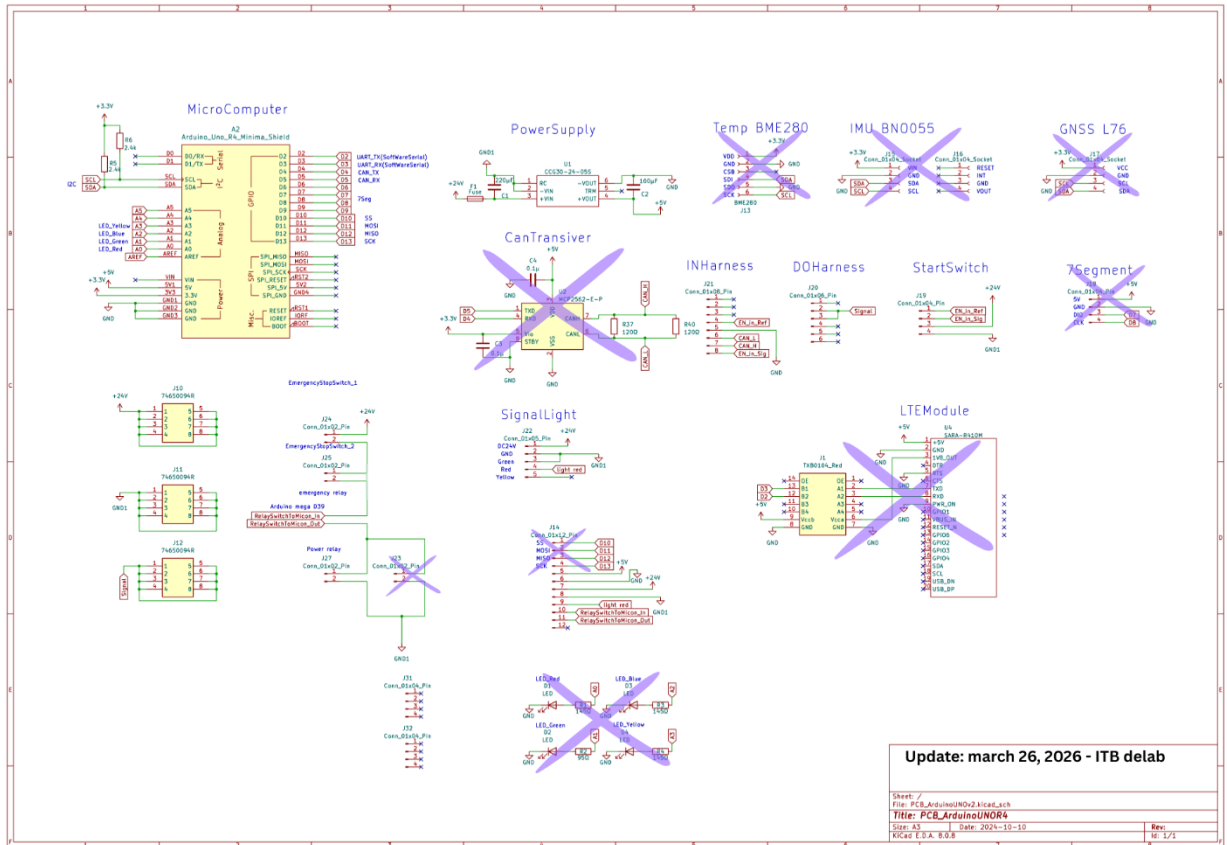

Figure 12. Top Level-PCB Schematic
3. **[Main Unit]**, Press the **start switch** inside the main body cover to make the Battery connect to the charger (figure 12)